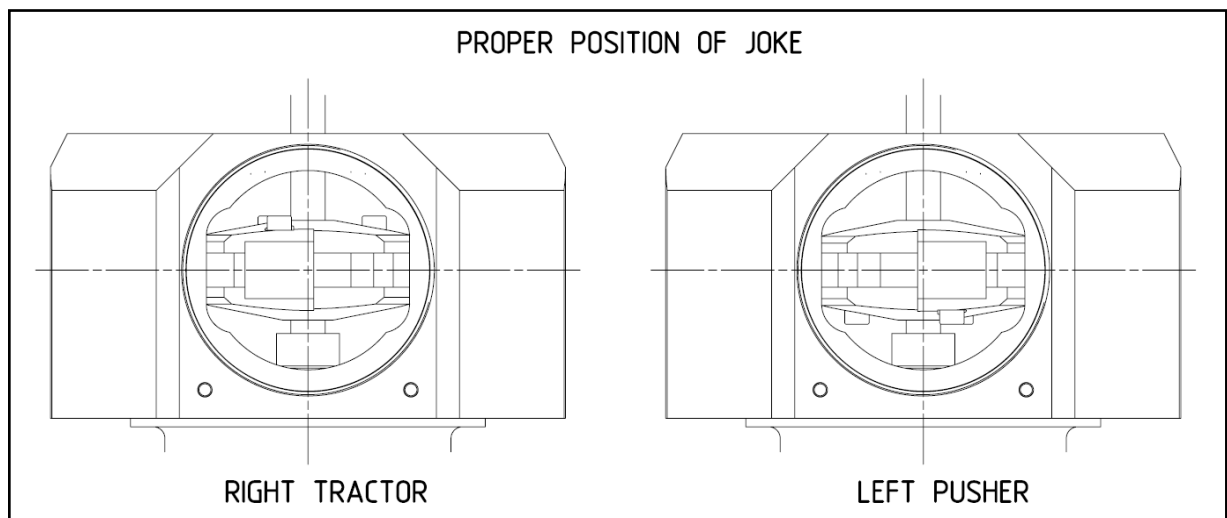

Fig. C-12 Yoke orientation
- 3) Insert assembled yoke (10) into hub (7). Orientation of assembled yoke (Fig. C-12):